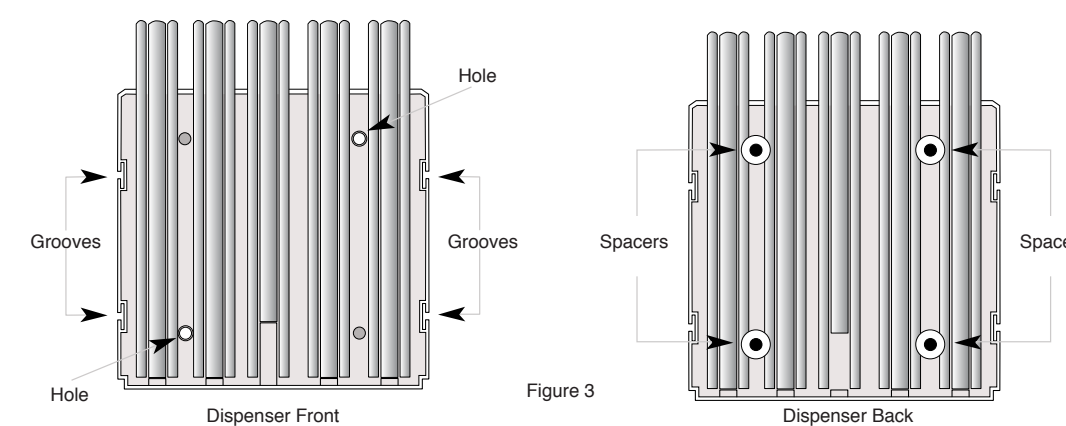

Figure 3
3. Take the dispenser portion of the unit (Figure 3) and check to ensure the spacer caps are in place on the back. Push the two supplied screws into the holes on the front of the unit and position it in on the wall in line with the anchors. Screw snugly into place.